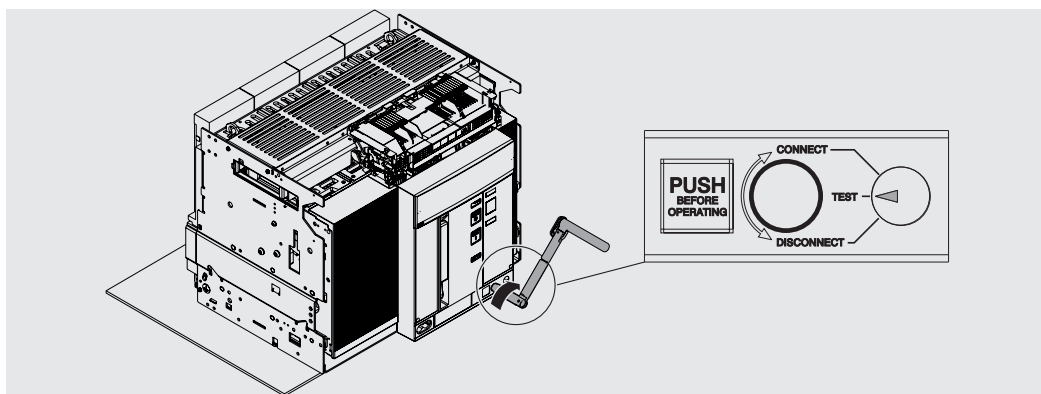

Figure 45
10. Turn the crank clockwise until the pushbutton comes out and the indicator shows that the circuit-breaker is in **TEST** position. See Figure 45.